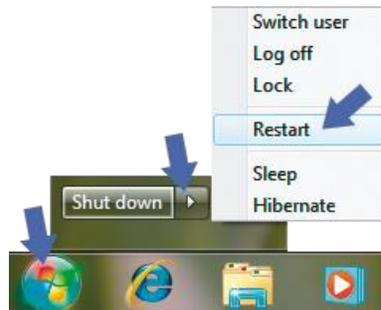

Figure 7-36 Restart Sequence, Prior to CM v8.5 and Non-Dell Hardware
1. On your computer, select the **Start > Shut Down > Restart** (Figure 7-36).